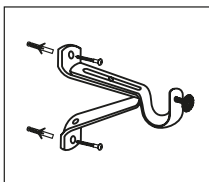

Fig. 2
- 3** Fix brackets to wall (see Fig 2) ensuring that they are spaced evenly.